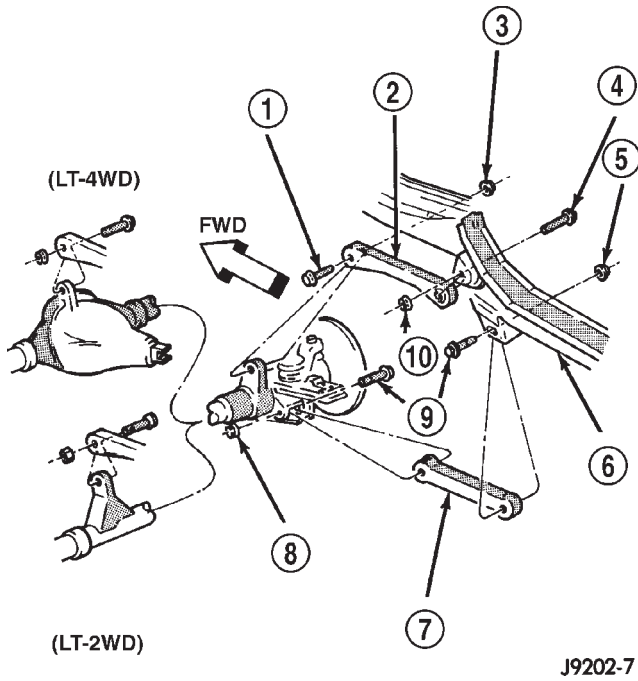

Fig. 3 Upper and Lower Suspension Arms
- (1) Raise and support the vehicle.
- (2) Remove the lower suspension arm nut and bolt from the axle bracket.
- (3) Remove the nut and bolt from the rear bracket and remove the lower suspension arm (Fig. 3).
- (2) Remove the upper suspension arm nut and bolt at the axle bracket.
- (3) Remove the nut and bolt at the frame rail and remove the upper suspension arm (Fig. 3).